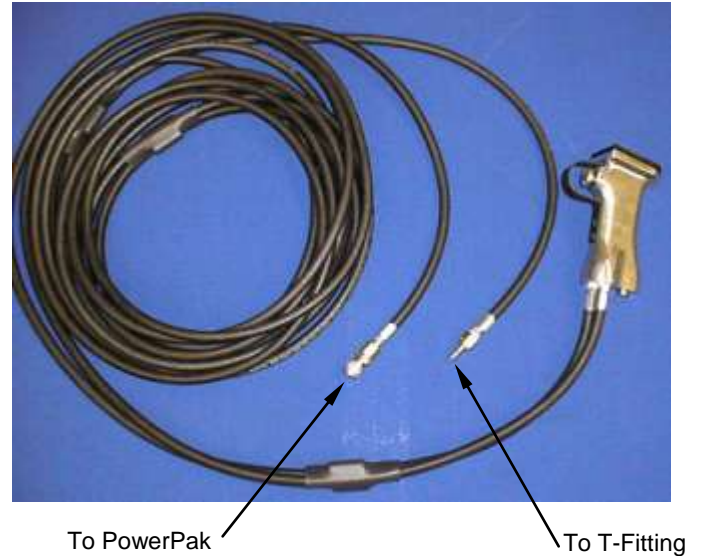

Figure 3.1-2
12. Connect the female quick disconnect of a 1/2-inch (12.7mm) ID shop air line onto the male air inlet of the PowerPak. Figure 3.1-2 shows the hoses and trigger assembly.